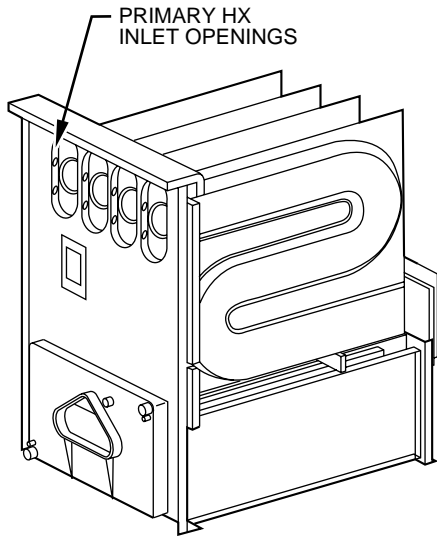

Fig. 6—Cleaning Inlet Openings of Primary Heat Exchangers
11. Clean heat exchanger openings with a vacuum and a soft brush. (See Fig. 6.)